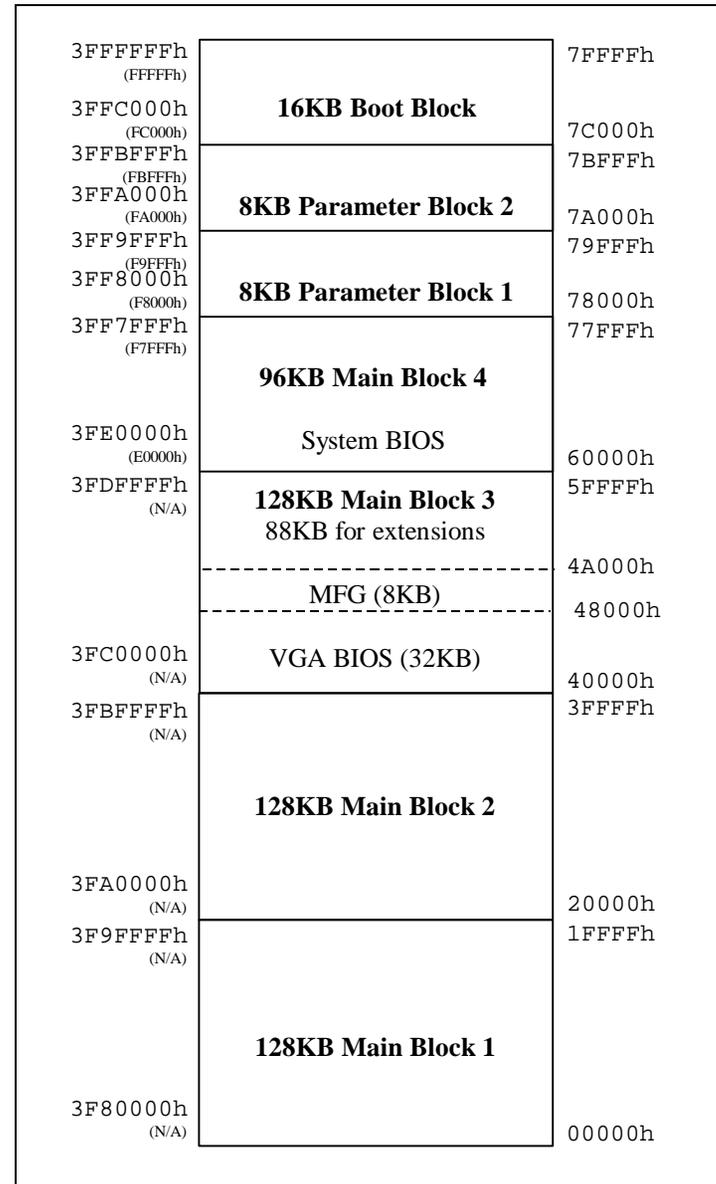

Figure D-1. FBD Memory Map.
See Figure D-1.
Using **REFLASH.EXE** is the preferred method for installing BIOS extensions. **REFLASH.EXE** erases and updates the blocks of the FBD specified on the command line. Specify the file to flash by using the **/F=<filename>** and the FBD offset at which to begin flashing by using the **/O=<offset>** command line parameters. Figure D-1 shows each FBD segment address. For example, **REFLASH.EXE /F=[filename] /O=0** begins the flash update process without an address offset. The program requires both of the command line parameters. To view the command line parameters on the screen, type **REFLASH.EXE** with *no* parameters.
- /O** Offset (in HEX) at which to begin flashing; offsets are relative to the lowest address of the device; **these are not physical memory addresses**. See the offset values in Figure D-1. An offset of zero specifies that flashing is to begin at the very first byte of the device.
- /C** Clear CMOS setup information stored in the FBD. Some RadiSys products allow you to store CMOS setup information in the FBD. This information, when stored, resides in Parameter Block 2. See Figure D-1. Invoking **/C** option clears Parameter Block 2, clearing the stored CMOS setup information from the FBD. **The board does not allow you to store CMOS setup information in the FBD.**